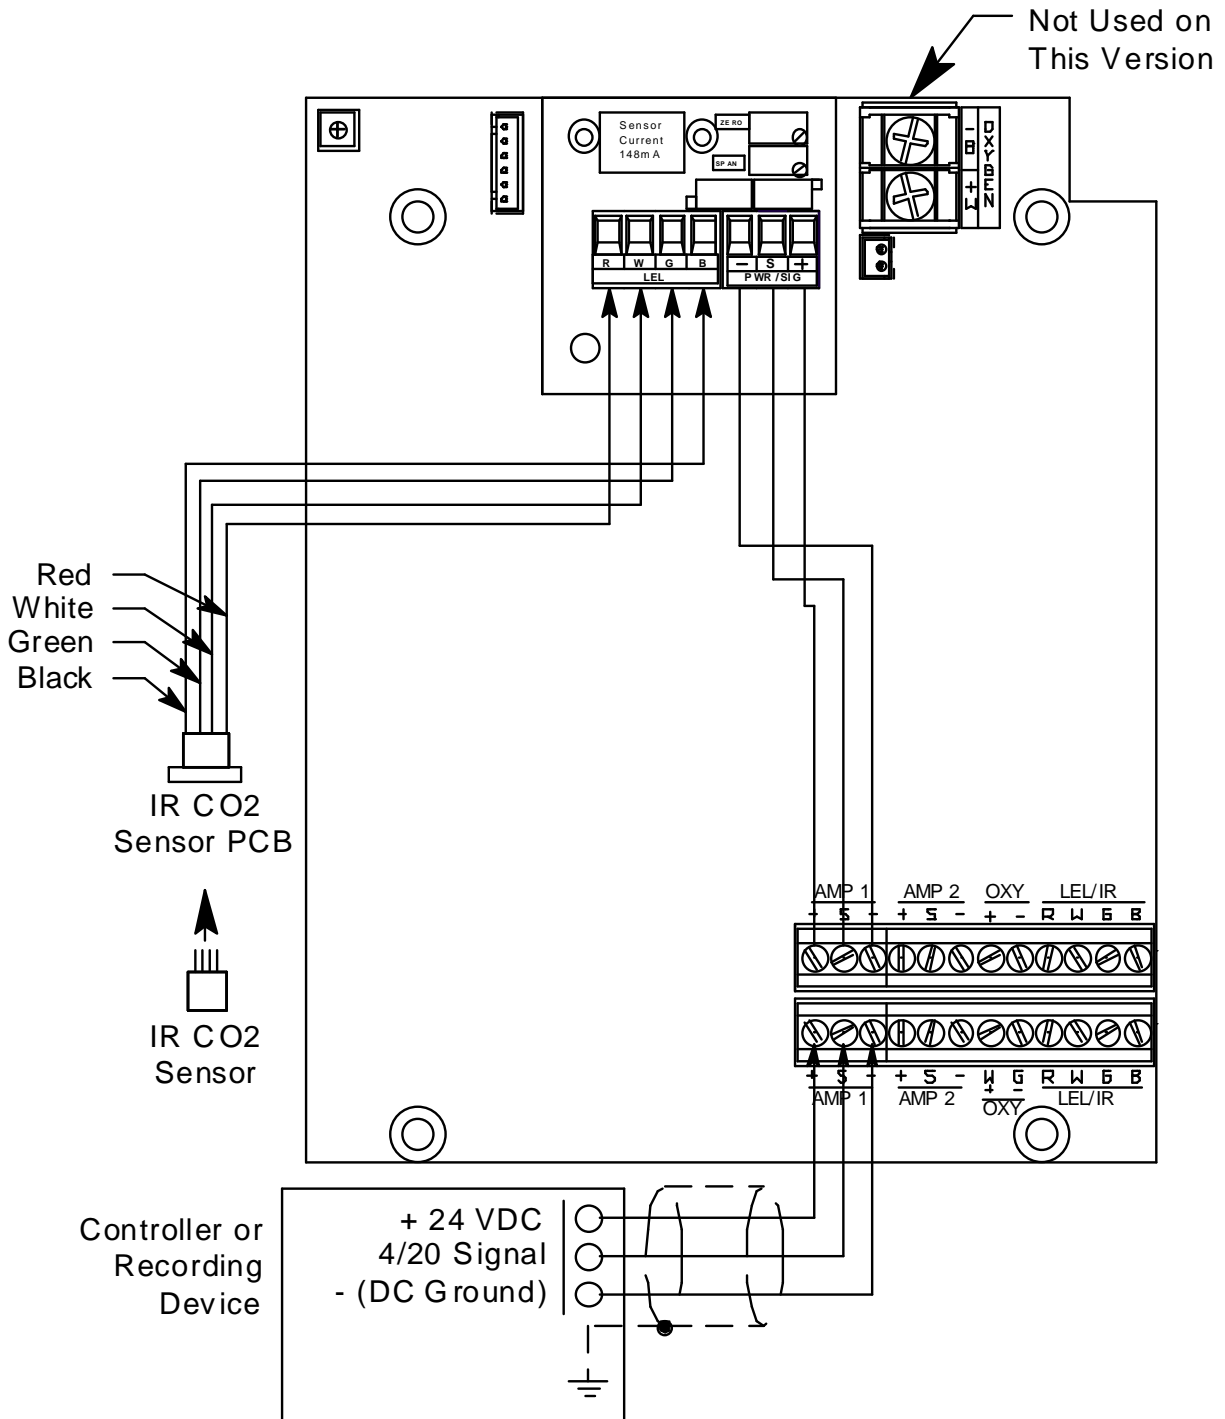

Figure 5: Wiring the Sample-Draw Detector to a Controller
5. Connect the cable to the sample-draw detector’s interconnect terminal strip as shown in Figure 5.
8. Connect the wires to the applicable detector/transmitter terminal strip at the controller as shown in Figure 5. Refer to the controller operator's manual and the controller detector head specification sheet for the 35-3001A-05-XX for detector/terminal strip connections specific to the controller.